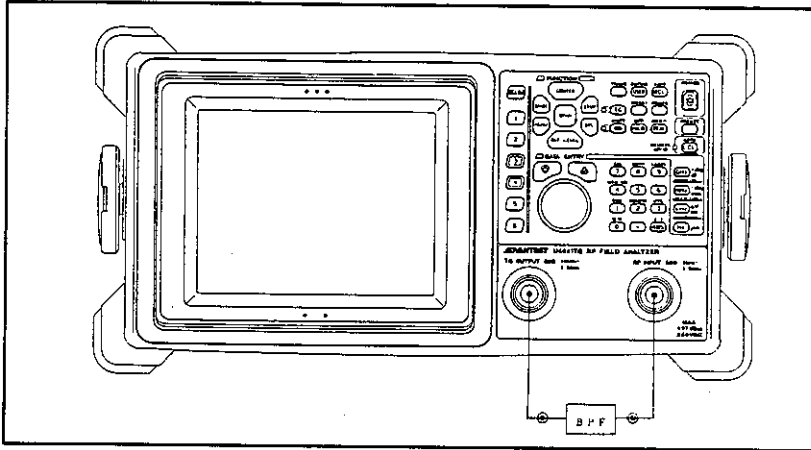

Figure 4-4 Connecting BPF
(2) Starting Measurement
- ① Connect BPF between the TG OUTPUT connector and the INPUT connector by using measuring cables as shown in Figure 4-4.